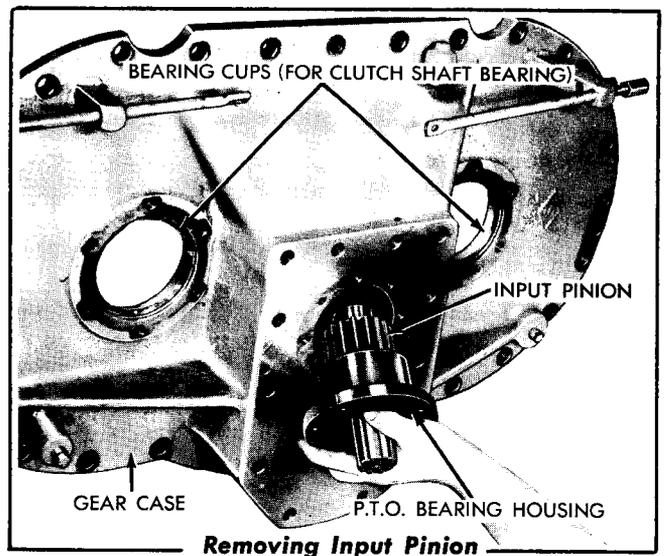
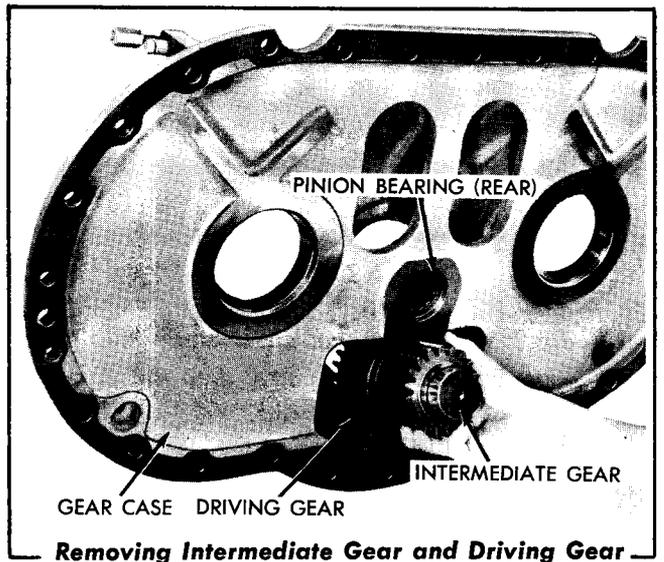

FIG. 38
FIG. 40
17. Remove the 7 capscrews and lockwashers attaching the P.T.O. bearing housing (Fig. 38) to the gear case. Strike the rear end of the input pinion with a soft hammer and remove the input pinion and the bearing housing.
19. Refer to Fig. 40 and remove the intermediate gear and the driving gear from the gear case.
6. Install the bearing cups for each clutch shaft front bearing cone (Fig. 38) in position in the gear case, if the cups have been removed. Install the pinion bearing (rear bearing for the input pinion) in position in the bore of the gear case (Fig. 40), if the bearing has been removed. Lubricate the bearing with clean oil.
8. If the driving gear was removed from the intermediate gear (Fig. 40), install the intermediate gear key in the keyway of the intermediate gear. Press the driving gear into position on the shaft portion of the intermediate gear.
10. Insert the input pinion (Fig. 38) into position in the gear case and its rear bearing. Install the oil seal and the pinion bearing (front) in position in the P.T.O. bearing housing if they were removed. *NOTE: Make certain that the oil seal is installed with the sealing lip towards the bearing.* Lubricate the bearing and oil seal with clean oil. Coat the rear surface of the bolting flange of the P.T.O. bearing housing with liquid-type gasket cement and install the bearing housing. Secure the bearing housing to the gear case with 7 capscrews and lockwashers.